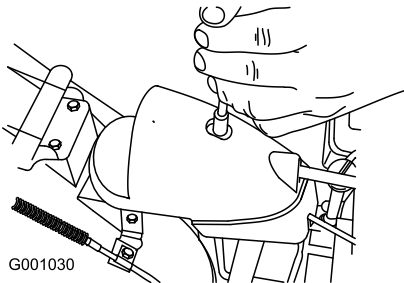

Figure 50
1. Remove the fastener on the gear cover (Figure 50), lift the front of the cover up, and slide it back and out of the way.